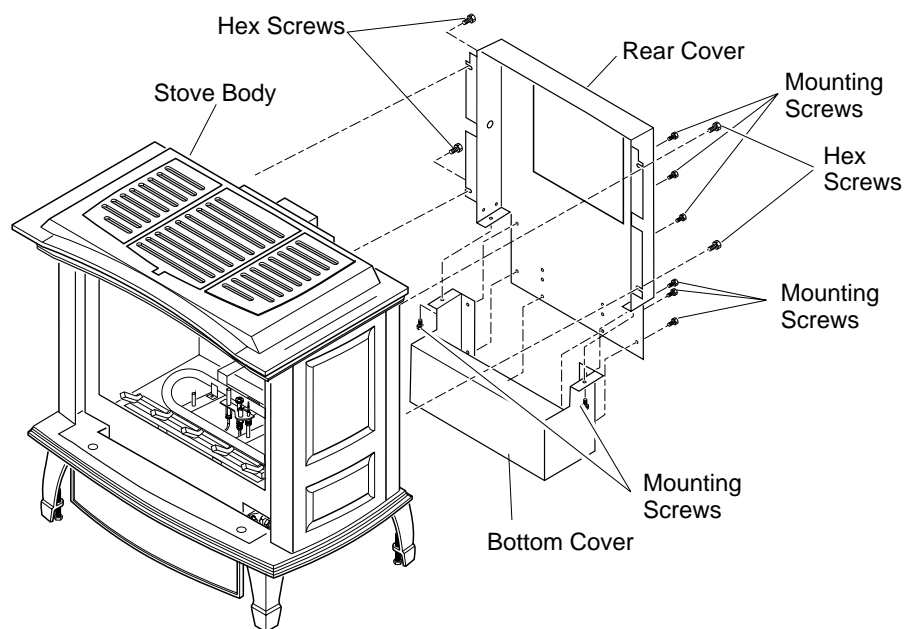

Figure 18 - Removing Rear Cover and Bottom Cover from Stove Body
1. Remove 4 hex screws securing rear cover to back of stove body (see Figure 18).
2. Separate bottom cover from rear cover by loosening the 8 mounting screws (see Figure 18).
6. Reattach bottom cover to rear cover with 8 screws removed in step 2 on page 8 (see Figure 18, page 7). Make sure that you don't pinch any wires during reassembly.